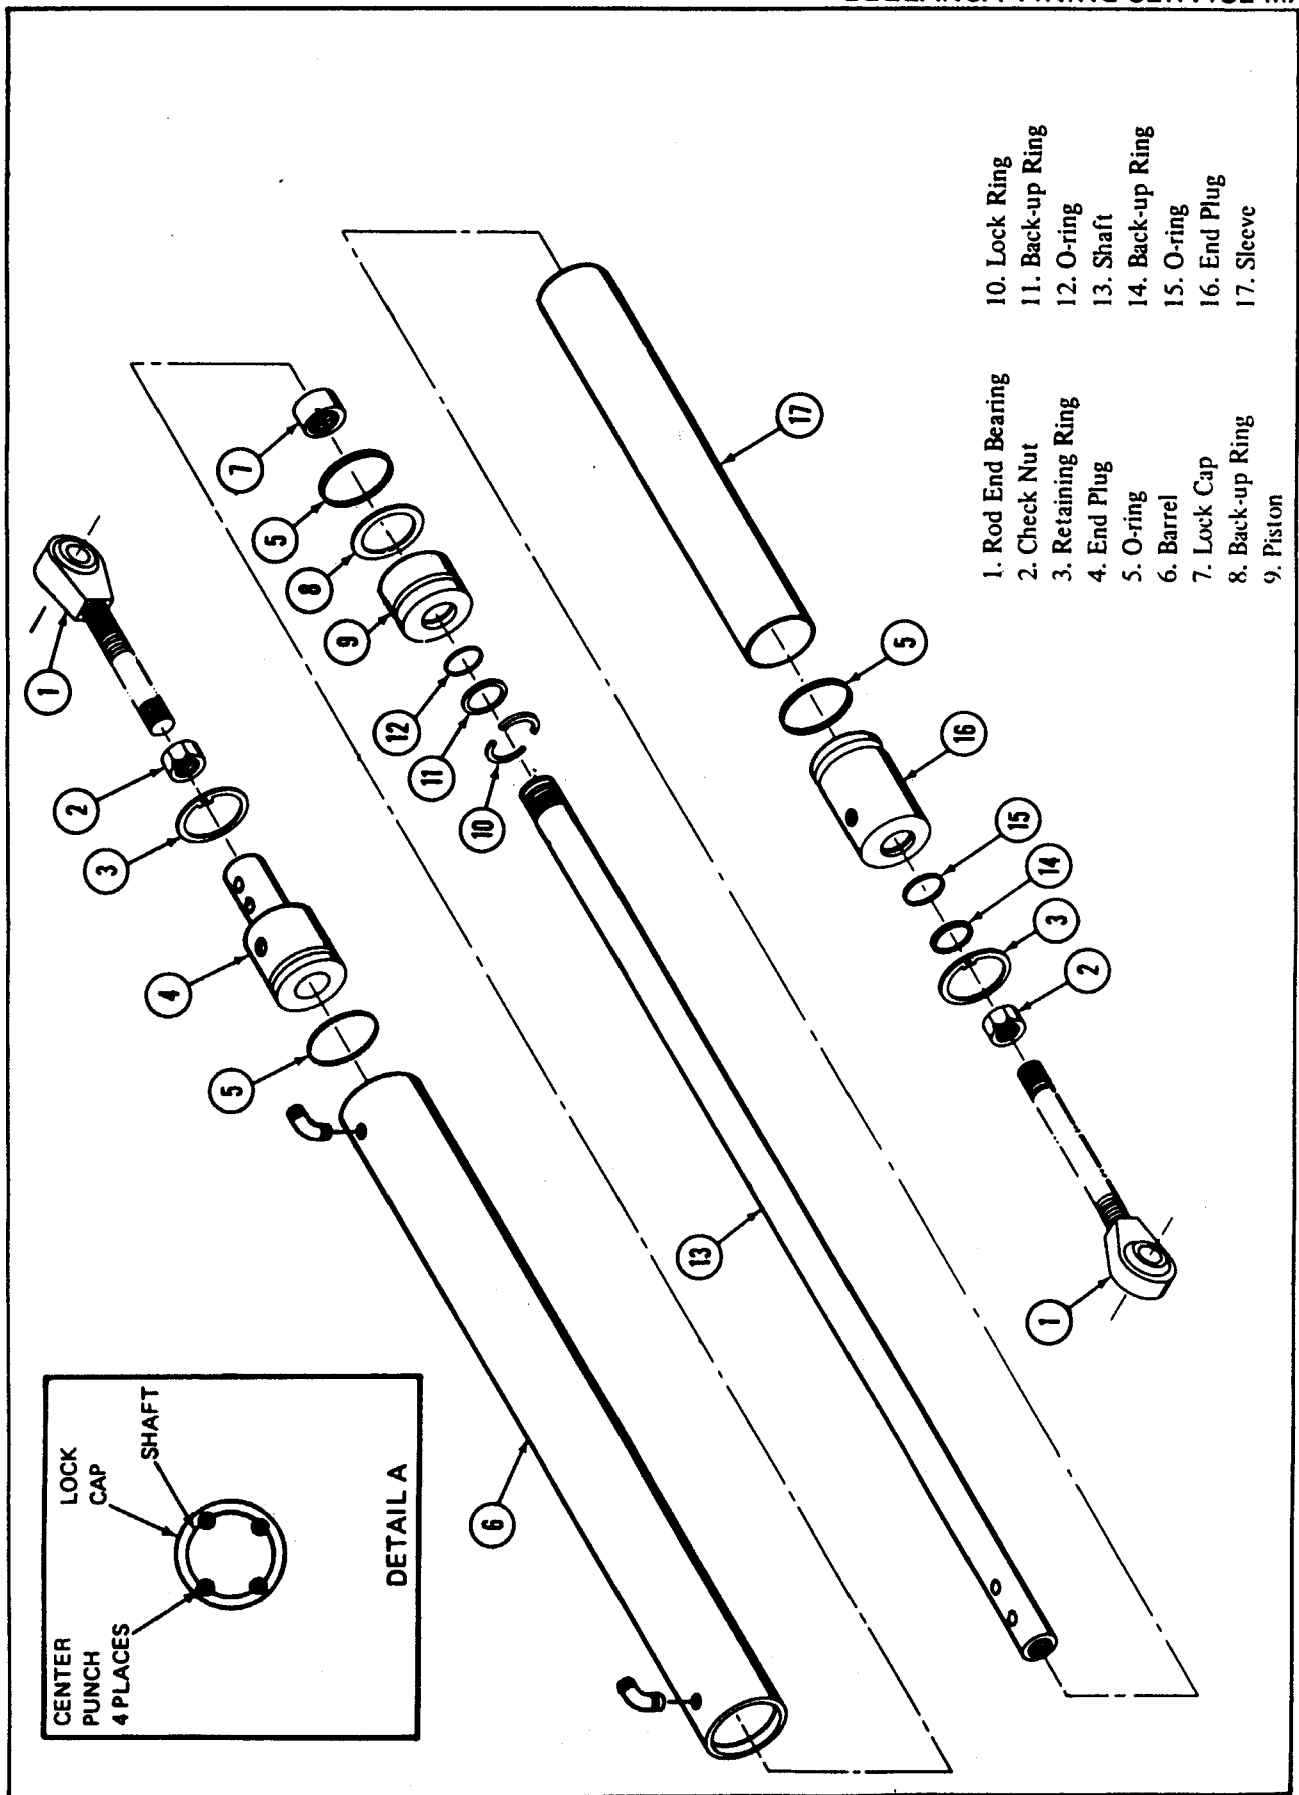

Figure 7-5. Nose Gear Actuating Cylinder. Aircraft Serial Numbers 79.30906 and above.
b. On Aircraft Serial Numbers 79-30906 and above, perform the following procedures to disassemble and repair the nose gear actuating cylinder or replace O-rings (see Figure 7-5).
(1) Remove the two hydraulic fittings from the barrel (6).
(2) Remove the safety wire from the check nut (2) and shaft (13).
(3) Loosen the check nut (2) and remove the rod end bearing (1) from the shaft (13).
(4) Remove the retaining ring (3) and end plug (16).
(5) Remove the retaining ring (3) and remove the rod end bearing (1), check nut (2), end plug (4), and O-ring (5) as on assembly.
(d) When the piston (9) and lock cap (7) are installed on the shaft (13), use a center punch and stake the cap and shaft in four places (see Figure 7-5, Detail A).